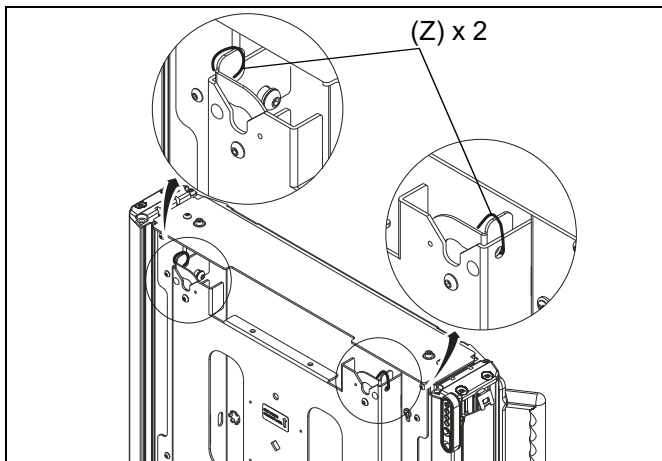

Figure 14
IMPORTANT ! : Manufacturer recommends using cable ties (Z) to secure the latching flags in closed position on both sides if padlock is not being used. (See Figure 14)